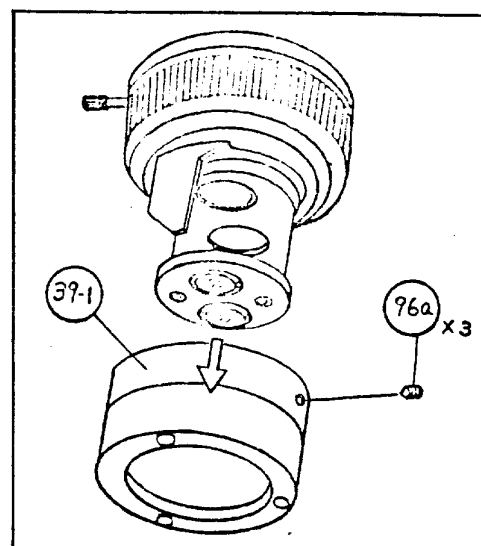

Fig. 40
- 2) Releasing the set screws (96a), remove the cover (39-1) (Fig. 40).